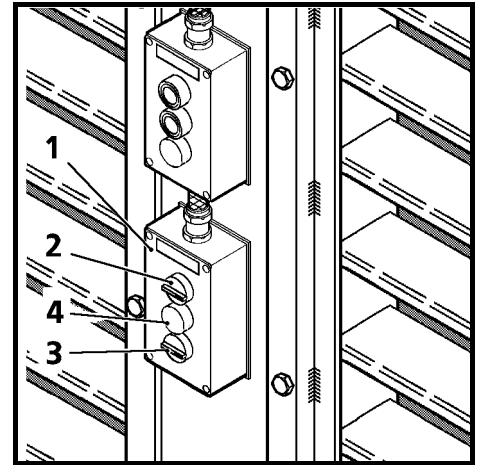

Fig. 1
The ladder can be extended and retracted via a remote control (Fig. 3) and also from the uppercarriage via the rotary switch 2 on the control box 1, which is installed on the upper ladder section at the catwalk (Fig. 1).
When the ladder has reached its top position, it can be mechanically locked via an electro-hydraulic actuated pin by turning the rotary switch (Fig. 1, pos.3) in clockwise direction. Hold the rotary switch until the red indicator light 4 goes out.